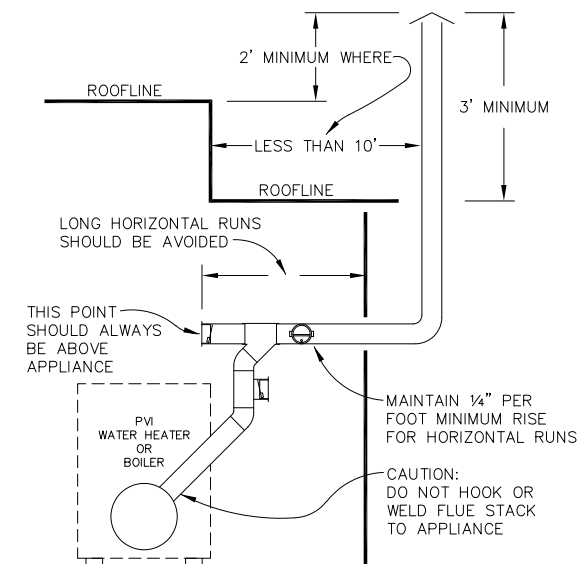

FIGURE 3
4. Draft regulators (barometric dampers) may be incorporated in the vent for gas, oil, and gas/oil fan assisted products and are recommended. A single swing barometric damper should be used for oil-fired products. The double swing type should be used on gas or gas/oil fired products. Under normal venting conditions, the draft regulator should be the same size as the flue outlet of the product, never smaller. Draft regulators must be installed and adjusted in accordance with the manufacturer's instructions (see Figure 3).